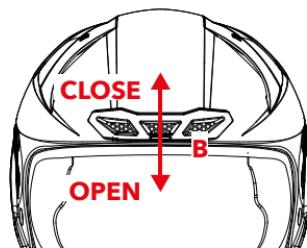

FIGURE 5
FRONT AIR INTAKE – B – Figure 5
- Figure 5: Slide up the central cursor to close the air intake, slide down to open it